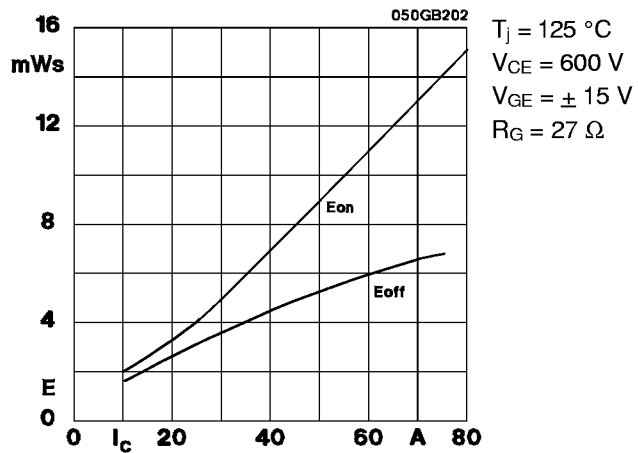

Fig. 2 Turn-on /-off energy =  $f(I_c)$
5) See fig. 2 + 3; RGoff = 27 Ω